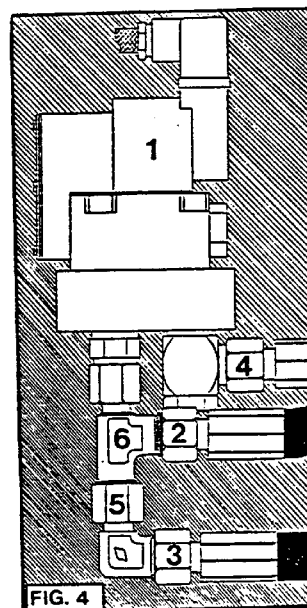

FIG. 4
Appearance: See fig. 4
2. Using a 30 mm open end wrench, remove the hose (fig. 4 item 2), and the elbow (fig. 4 item 5), from the "T" fitting (fig. 4 item 6).